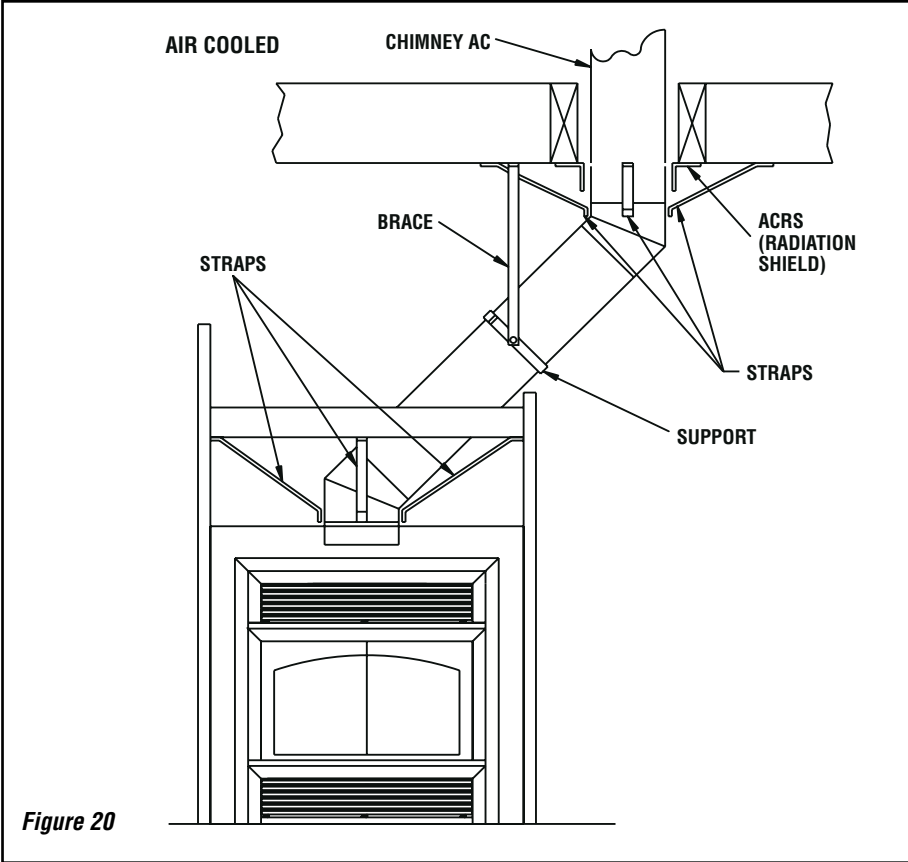

Figure 20
1. Install the first elbow. Turn it in the required direction. To lock it in place, turn 1/8 of a turn. Fasten the straps attached to the elbow to the surrounding framing using nails or drywall screws (**Figure 20**).